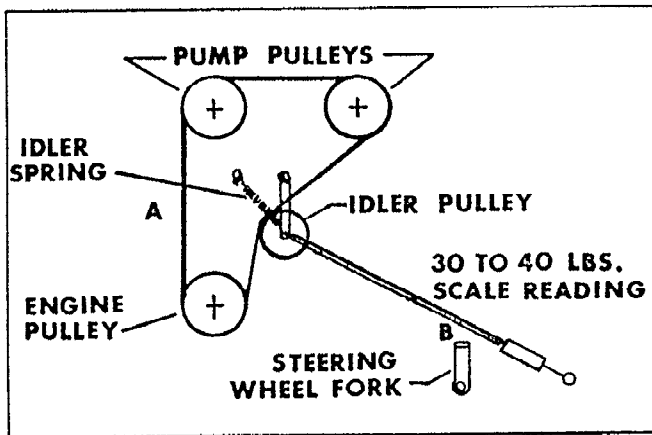

Figure 18.
b. When installing front mower hoses place pressure hoses (lower hoses on front of tank) inside the return hoses and place reel motor fittings at the angles shown (See Fig. 18) to avoid hose contact with fixed parts when turning. Place rear reel motor fittings at the angles shown.
With the engine stopped push in on the belts at point "A" (See Fig. 18) midway between the engine and the pump pulleys to determine if the tension is approximately equal. If it is not, the belts are stretching or wearing unequally, expected life will be short and a new "stand by" set of belts should be purchased for installation when needed.